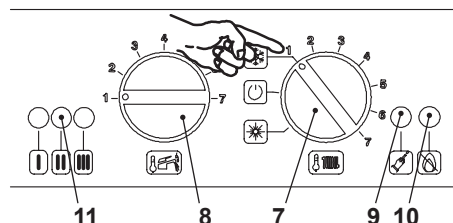

Figure 9.6
- 1 Turn the boiler ON positioning the function selector knob 7 as indicated in Figure 9.6.